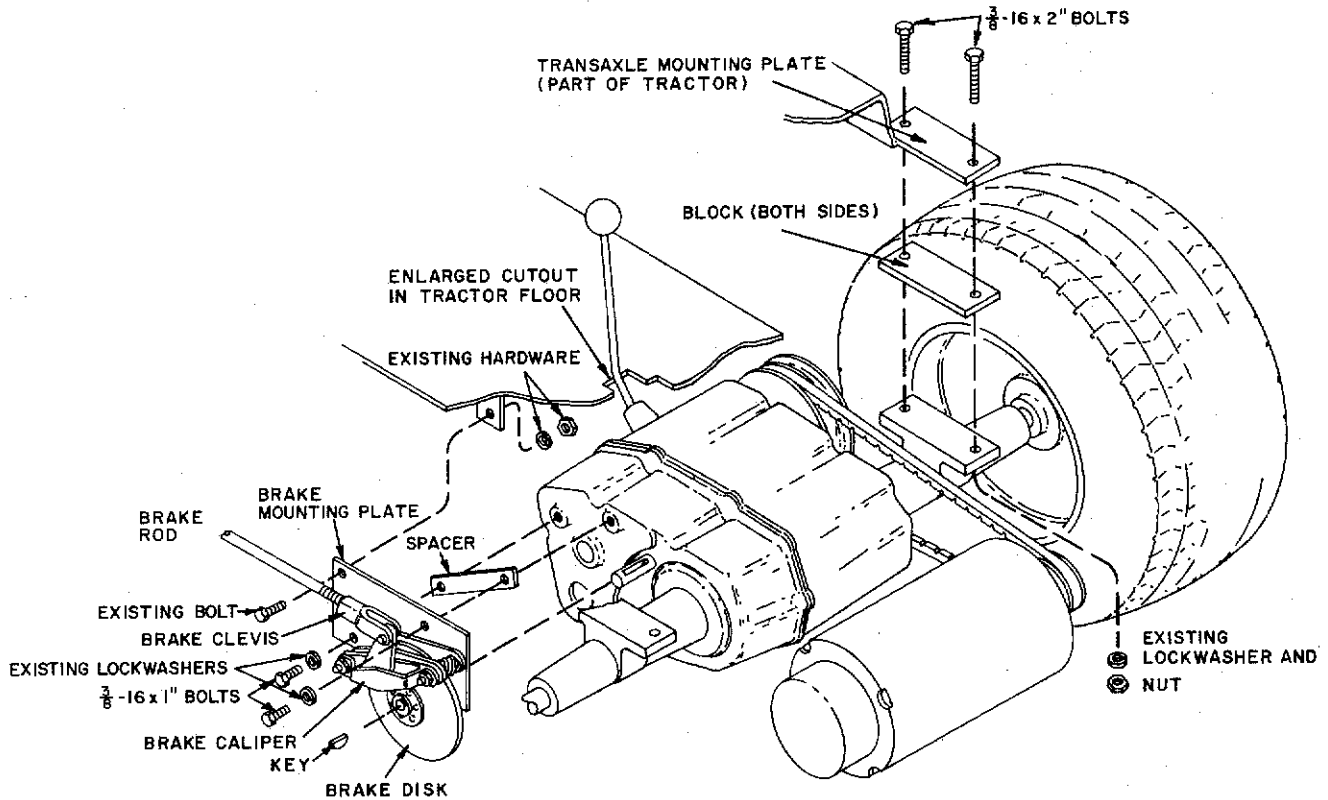

Figure 3
5. Attach the brake caliper to the new brake plate (furnished) as shown in Figure 3.
6. Install the brake disk, key, and the brake plate on the new transaxle with the spacer between the plate and the transaxle. Use hex head bolts, 3/8-16 x 1-inch (furnished) and lockwashers (original). See Figure 3.
9. Install the transaxle on the frame with the drive belt in place (on the inside groove of the double-groove transaxle pulley), placing blocks between the transaxle and the frame mounting pads. Use 3/8-16 x 2-inch bolts (furnished) and the original lockwashers and nuts. See Figure 3.
10. Secure the top front corner of the brake plate to the frame tab with the original bolt, lockwasher and nut as shown in Figure 3.